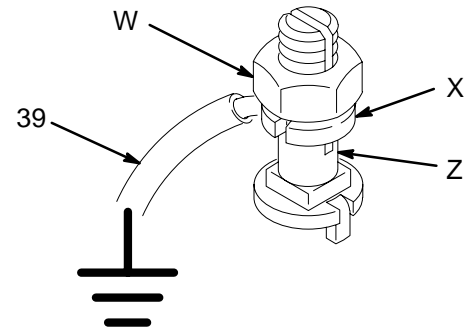

Fig. 1
1. *Pump:* use a ground wire and clamp (supplied). See Fig. 1. Loosen the grounding lug locknut (W) and washer (X). Insert one end of a 1.5 mm² (12 ga) minimum ground wire (39) into the slot in lug (Z) and tighten the locknut securely. Connect the other end of the wire to a true earth ground.